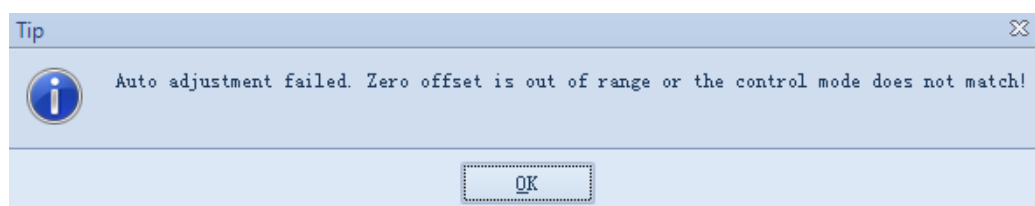

Fig. 10-4 Auto adjustment failed
- If auto adjustment failed (See Fig. 10-4), please confirm whether the relevant parameters are set well. Then try this operation again.